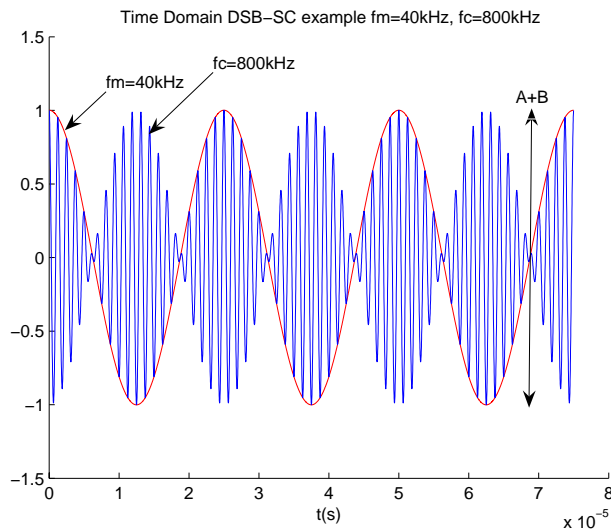

Figure 1: DSB-SC output waveform
- Use Fig. 11 in the data sheet to find the output level for **each** sideband. You will have measured A+B as shown in Fig. 1 which is the double sideband output. To compare to Fig. 11 you must take $((A+B)/2)/(2*\sqrt{2})$ which is the equivalent single sideband rms output level. Note that you must scale the value in Fig. 11 by the ratio of 3.3/3.9 since the datasheet example is for a load resistor of 3.9k and your circuit is 3.3k. Note also that re is slightly different as they use 1 mA, you have about 1.4 mA.